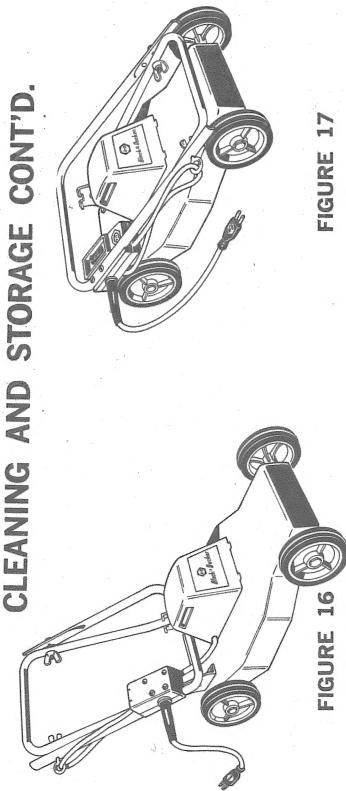
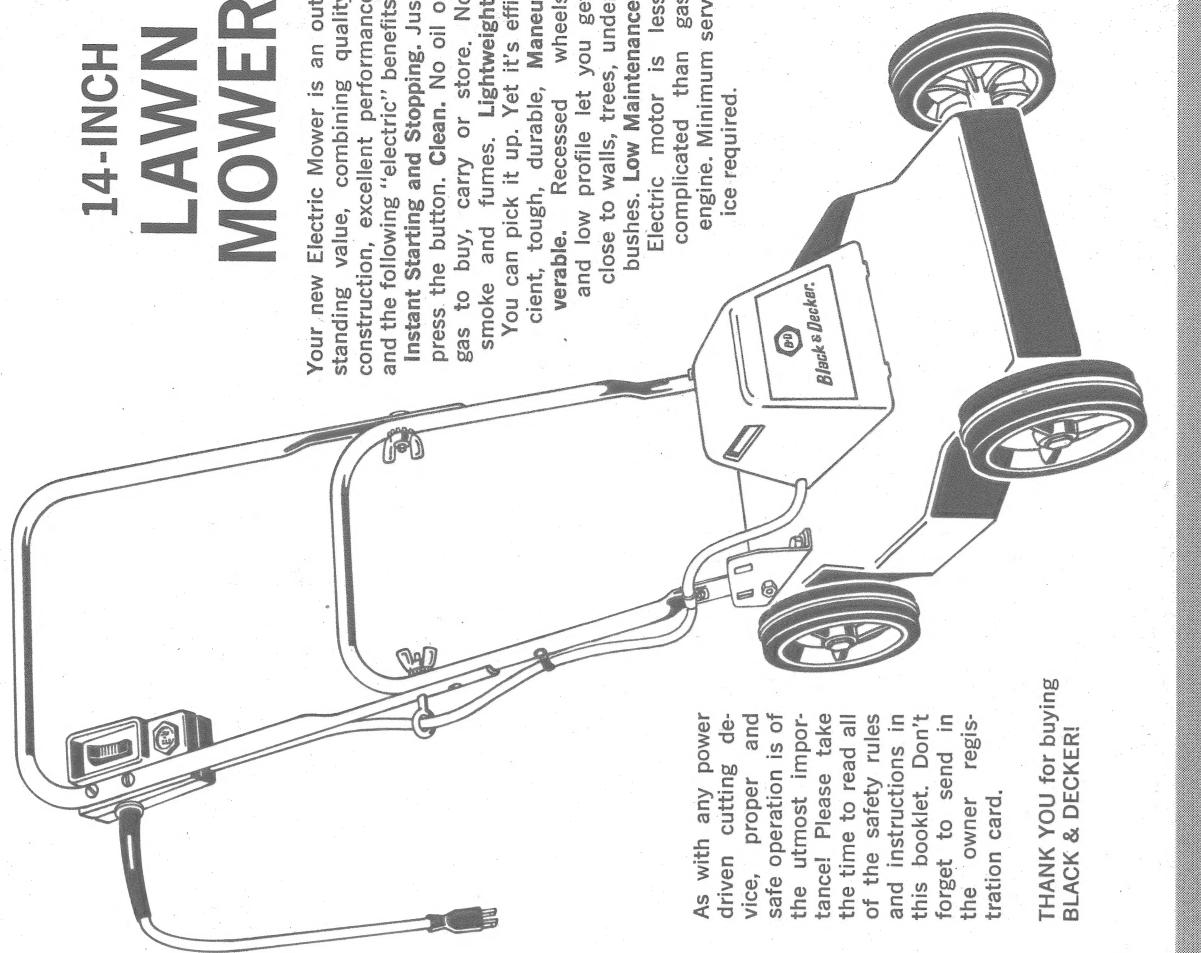

FIGURE 16
FIGURE 17
FOLDING MOWER HANDLE — The handle can be folded either as shown in Figure 16, or as shown in Figure 17 as follows:
- (1) FIGURE 16 — Loosen two wing nuts that hold upper and lower handle sections together. Fold upper handle section forward as shown.
- (2) FIGURE 17 — Squeeze both lower handle legs inward so that they clear the mounting brackets on the mower deck. Fold handle forward to a horizontal position. Loosen two wing nuts that hold upper and lower handle sections together. Fold upper section backward as shown. Be careful to avoid pinching electric cord.